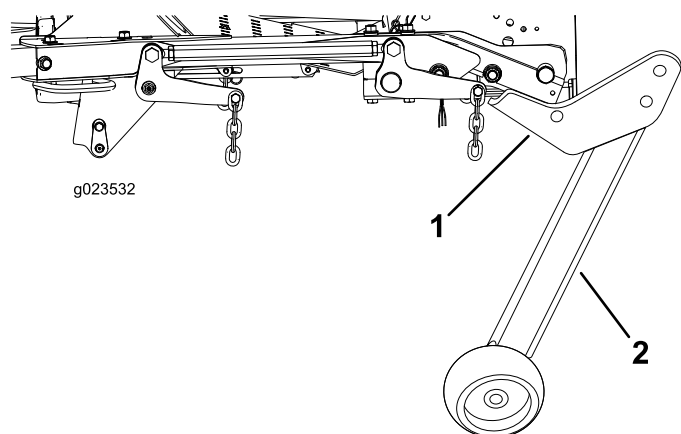

Figure 9
5. Remove the mounting bracket and support tube to gain access to the bolts on the right-hand side (Figure 9).